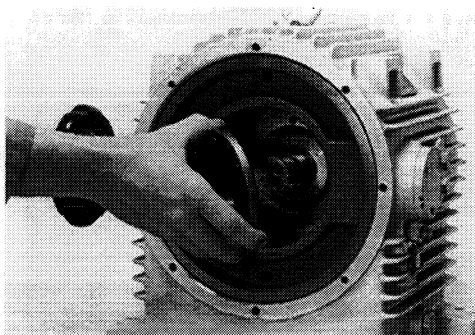

Fig. 12
Unbolt the charge pump cover (15) and then remove the O-ring (101) and bolts (93) (Fig. 12). Bolts are removed from output side on sizes 11, 12, 14 & 15.